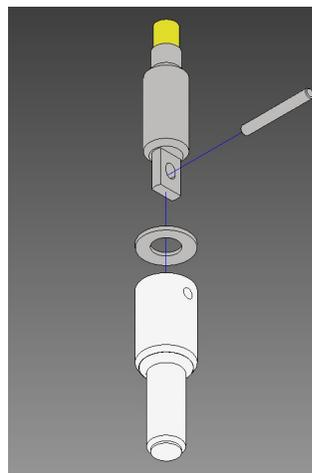

FIGURE F. 7. - STEM DISASSMBLY
7. Remove the wetted stem retaining pin and disassemble (see Figure F.7.)